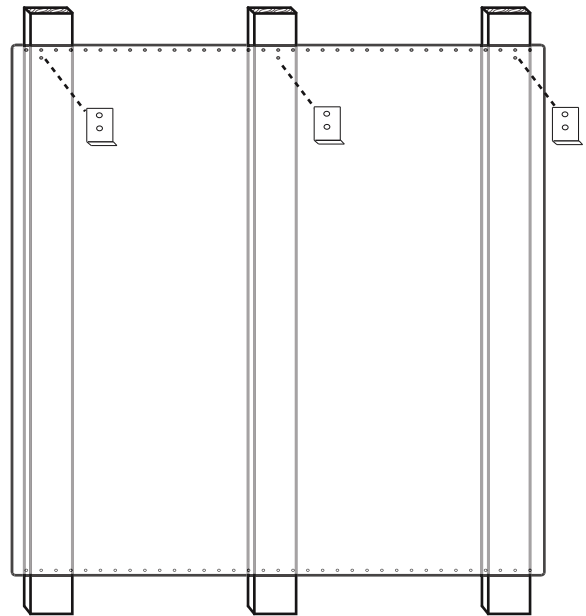

Figure 16: Backsplash with a Keep Hot Shelf
3. At the locations indicated in *Figure 16*, mount the lower shelf brackets included with the Keep Hot Shelf through the Backsplash and into the wall studs.